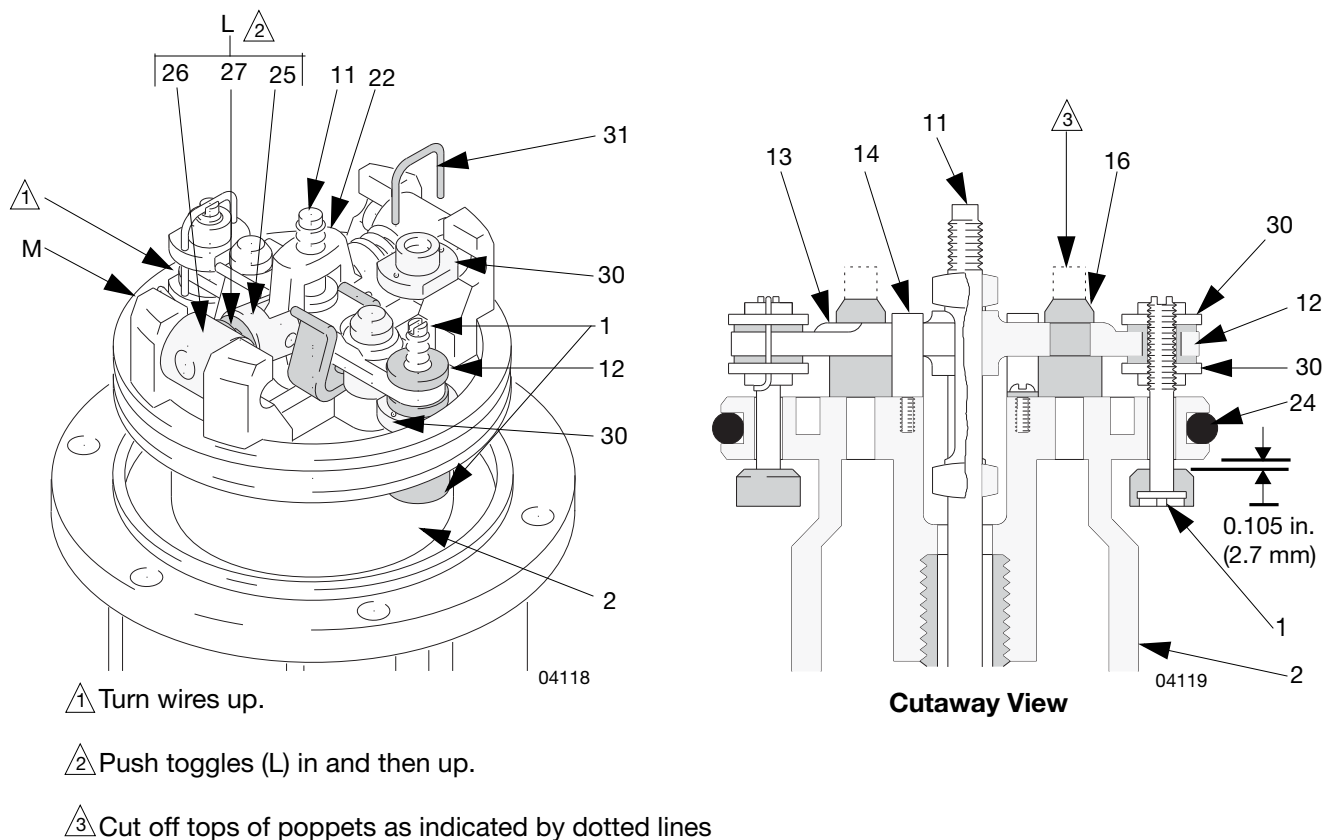

FIG. 5
9. Use a screwdriver to push down on the trip rod yoke (22). Always keeping fingers clear of the toggle assemblies (L), snap the toggles down. Straighten the lockwires (31) and remove them from the adjusting nuts (30) of the transfer valves. Remove the top nuts. Unscrew the stems (1) from the grommets (12) and bottom nuts. Squeeze orange poppets (1) firmly to check for cracks. See Fig. 5.
10. Grip the toggle rockers (26) with a pliers. Compress the springs (27), and swing the toggle assembly (L) up and away from the piston lugs (M), and remove the parts. Check to see that the valve actuator (13) is supported by the spring clips (14), but slides easily into them. See Fig. 5.
11. Remove the trip rod yoke (22), actuator (13), and trip rod (11). Check the exhaust valve poppets (16) for cracks.
6. Pull the exhaust valve poppets (16) into the valve actuator (13), and clip off the top part shown with dotted lines in Fig. 5.
7. Install the air intake grommets (12), and reassemble the valve mechanism. Before you install the lock-wires (31) in the adjusting nuts (30), use the special gauge, 15E796, to adjust the transfer valve so there is $0.105 \pm .010$ in. clearance between the poppets (1) and the seat when it is open. See Fig. 5. Snap the toggles (25) to the up position. This is essential for reliable air motor performance.
8. Reassemble the air motor, and assemble to the displacement pump. Torque the extension tube (64) to base (5) at 45 to 55 ft-lb (61 to 75 N•m). Before you install the air motor plate, tighten the throat packing nut (38) snugly; do not overtighten it.